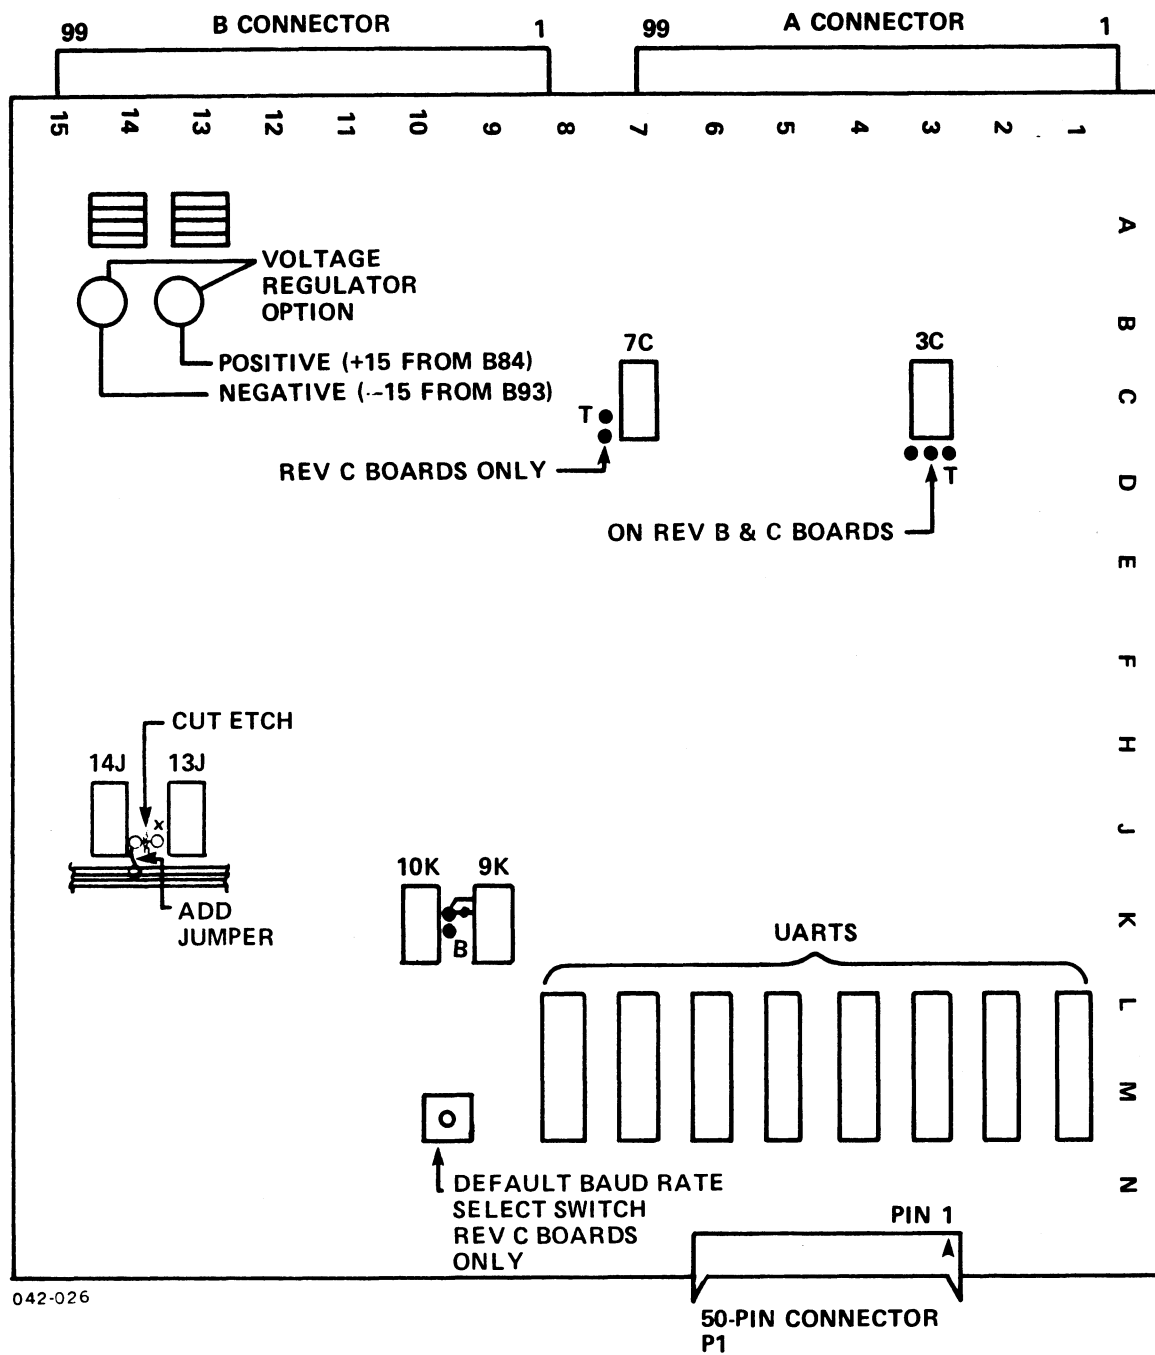

Figure 6-8. 310 Multiplexer Board
Install the 310 multiplexer board as follows (see Figure 6-8):
- b. Install a jumper as indicated in Figure 6-8.